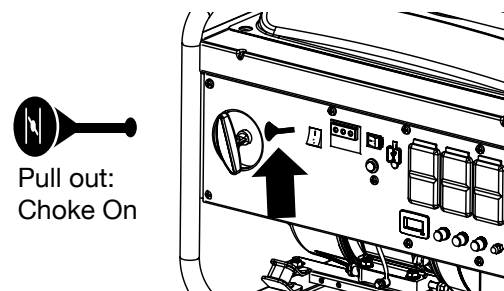

Figure 5: Pull choke lever
7. Pull the choke lever on the control panel (see Figure 5).